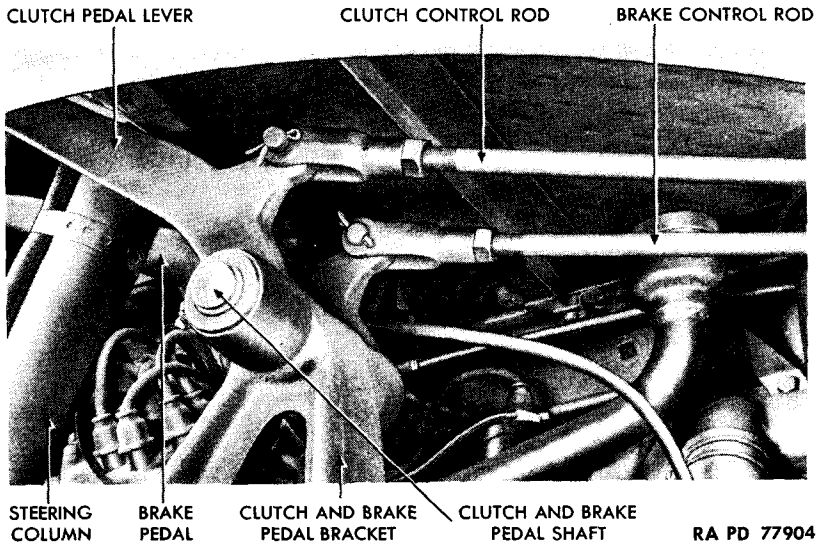

Figure 28 – Clutch, Brake Pedals, and Linkage
- qq. **Remove Clutch Pedal Lever, Brake Pedal Lever, and Clutch and Brake Pedal Bracket** (fig. 28). Remove the 5 nuts, 10 lock washers, and 5 bolts which secure bracket to frame. Remove bracket and pedal levers as a unit.
w. **Install Clutch Pedal Lever, Brake Pedal Lever, and Clutch and Brake Pedal Bracket** (fig. 28). Position bracket to frame. Install the five bolts, two toothed lock washers, eight lock washers, and five nuts which secure bracket to frame.
(2) REMOVE CLUTCH PEDAL LEVER FROM CLUTCH AND BRAKE PEDAL SHAFT (fig. 28). Remove taper pin, lock ring, and flat washer which connects lever to shaft. Slide shaft over away from clutch side, and remove pedal lever.
(4) INSTALL CLUTCH PEDAL LEVER ON CLUTCH AND BRAKE PEDAL SHAFT (fig. 28). Slide pedal shaft over away from clutch pedal side. Position pedal lever on end of shaft, and secure with the flat washer, lock ring, and taper pin.
(5) CONNECT CLUTCH CONTROL ROD AND CLUTCH PEDAL LEVER (fig. 28). Position clutch control rod to pedal lever, insert clevis pin, and secure with cotter pin.
(6) ADJUST CLUTCH (par. 59).